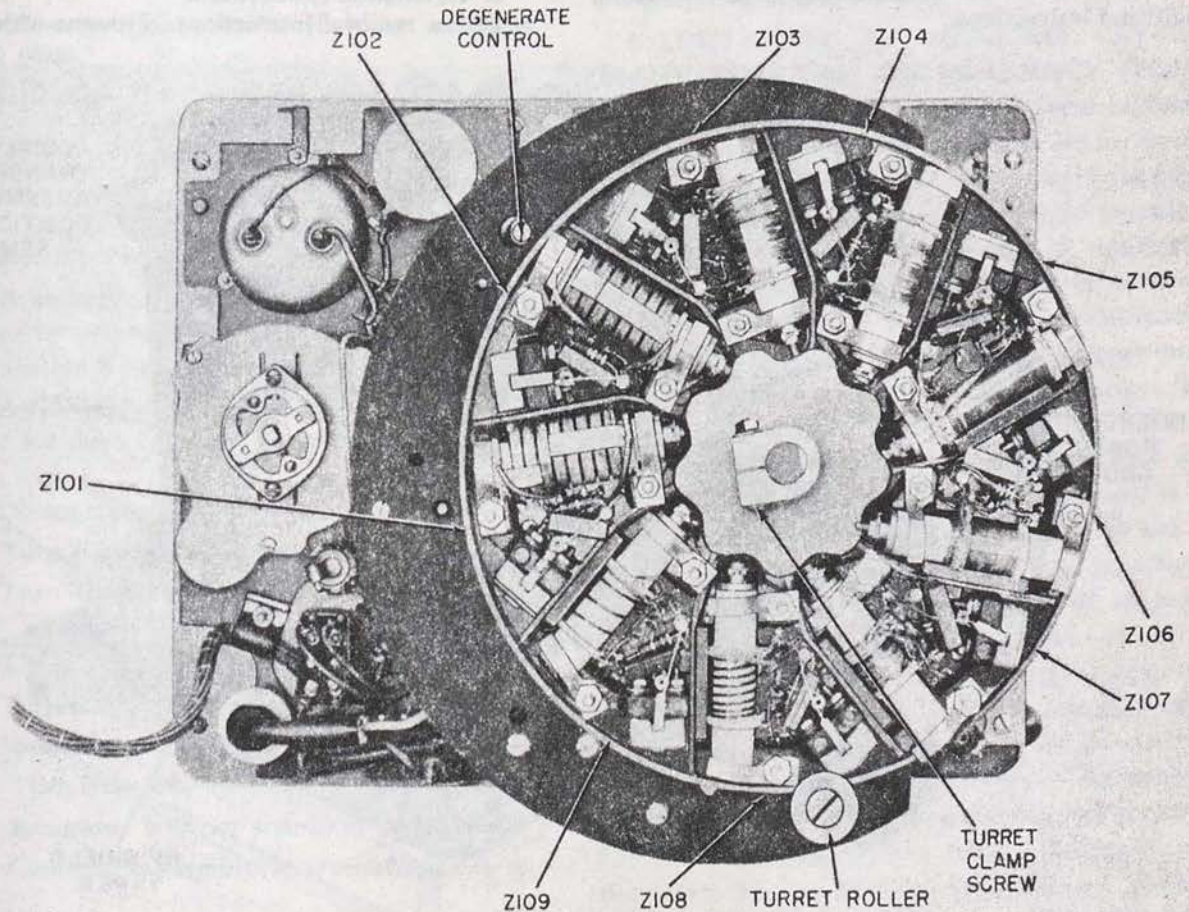

Figure 7-5. Oscillator Coil Turret
(1) Remove the signal generator from its case. See paragraph 7.
(2) Remove the RF shield assembly. See paragraph 7.
(3) Position the signal generator chassis face down and allow it to rest on the front panel handles.
(4) Loosen turret clamp screw. (See figure 7-5.)
(5) Remove turret roller and screw. (See figure 7-5.)
(6) Lift up turret assembly.
(7) Tighten one set screw in coupling.
(8) Turn frequency knob clockwise 8 divisions.
(9) Loosen set screws in coupling.
(10) Turn frequency knob fully counterclockwise.
(11) Retighten both set screws in coupling.
(12) Continue reassembly in reverse order of removal.
(13) Recalibrate all frequency bands. (See paragraph 15.)
15. READJUSTMENT OF FREQUENCY CALIBRATION. (See figure 7-5.)